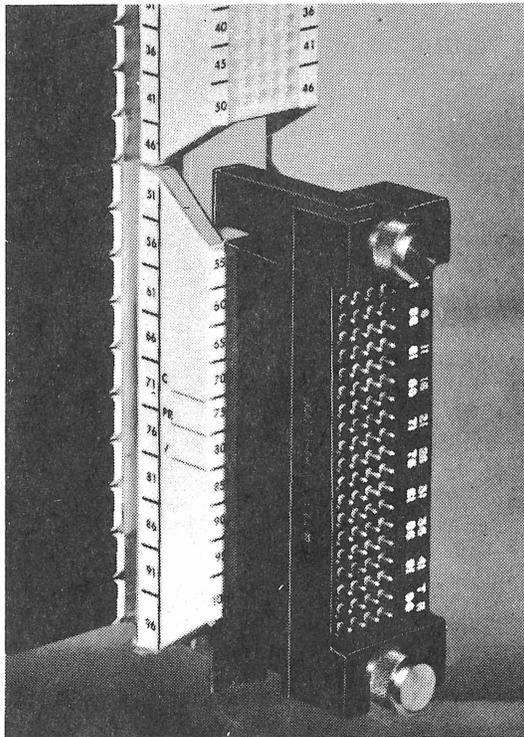

Figure 34. "H" Test Connector
18.01 The "H" Test Connector (see figure 34) plugs into either the top or bottom test field on the C-377 Connector to provide terminals for testing with a test probe. Wear and damage to the test field contacts is thereby minimized.